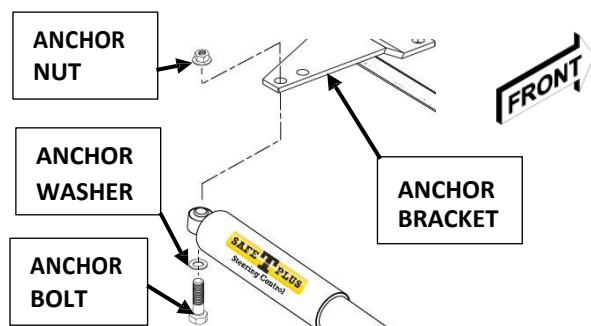

FIGURE 4. SAFE T PLUS INSTALL TO ANCHOR BRACKET
6. With **Anchor Bolt** threads facing up, loosely install large end of SAFE T PLUS® unit to the bottom of **Anchor Bracket** with **Anchor Bolt**, **Anchor Washer**, and **Anchor Nut** (Figure 4).
8. Grip head of **Anchor Nut** with 1-1/8-inch open ended wrench. Using a torque wrench with a 1-1/8-inch socket, torque **Anchor Bolt** to **Anchor Bracket** to **120-130 foot pounds** (Figure 4).